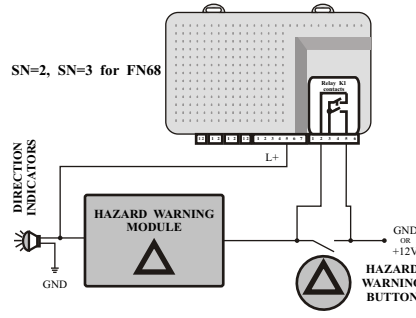
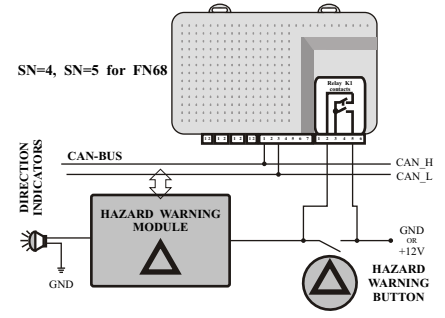
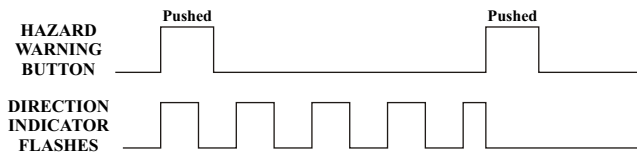
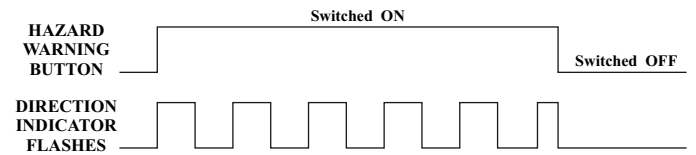

Fig. 3. Alarm system counts the flashes via input L+.
Fig. 4. Alarm system counts the flashes via CAN-BUS.
Fig. 5. The push of the hazard warning button makes short electrical pulses.
Fig. 6. The push of the hazard warning button makes the continuous electrical signal turn ON or OFF.
- the alarm system emulates the car's hazard warning button when pushed (N.B. relay K1 makes the circuit short) and the car starts the direction indicators flashing. The number of flashes is counted via 'L+' input, which is connected to the direction indicator (see Fig.3). When the number of car indicator flashes match the number of flashes the alarm system requires, the next emulation of the hazard warning button being pushed is made by the alarm system to stop the flashing.
b) the alarm system emulates the pushing of the car's hazard warning button (N.B. relay K1 makes the circuit short) and the car starts the direction indicators flashing. The number of flashes is counted by the analysing information in the CAN-BUS (see Fig. 4). When the number of car indicator flashes match the number of flashes the alarm system requires, the next emulation of the hazard warning button being pushed is made by the alarm system to stop the flashing.
For most modern cars the push of the hazard warning button makes an electrical pulse and it starts the direction indicator flashing. The next pulse comes with the next push and it stops the indicators flashing (see Fig. 5). The 'GN7C' makes these pulses with the help of relay K1 by closing normally open contacts for 0.25 second.
For very few cars the push of the hazard warning button makes a continuous electrical signal and the direction indicator is flashing only when this signal is present (see Fig. 6).
- the direction indicators are connected according to Fig. 3 and the hazard warning button operates according to Fig. 5. This is the second most popular direction indicators connection method. The SN=2 must be set for FN68;
- the direction indicators are connected according to Fig. 4 and the hazard warning button operates according to Fig. 5. This is the third most popular direction indicators connection method. The SN=4 must be set for FN68;
- the direction indicators are connected according to Fig. 3 and the hazard warning button operates according to Fig. 6. This is a rarely used indicator connection method. The SN=3 must be set for FN68;
- the direction indicators are connected according to Fig. 4 and the hazard warning button operates according to Fig. 6. This is a rarely used indicator connection method. The SN=5 must be set for FN68.